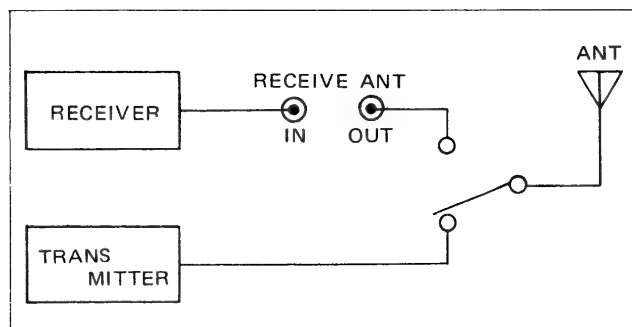

Fig. 1 Connection of a pre-amplifier
1. A receiving pre-amplifier. (Fig. 1)